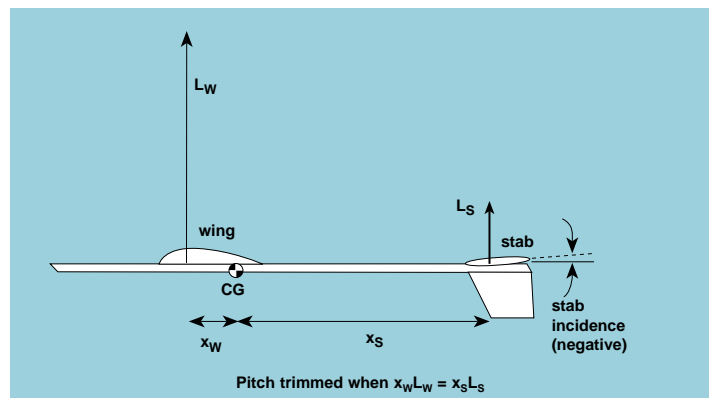

Figure 15 - Pitch trim of a glider
The wing of a boost glider is not stable in pitch all by itself. The lift of the wing is assumed to act through a point called the *aerodynamic center* which is located near the quarter chord point (1/4 of the chord length back from the leading edge). The center of gravity (CG) of the wing is typically behind the aero-center, resulting in a pitching moment that would cause the wing to pitch up and tumble end-over-end. The most common way to achieve pitch stability is by adding a second, smaller aerodynamic surface called the *horizontal stabilizer* (or *stab*). The stab produces an opposite pitching moment to counter the pitching moment of the wing (see figure 15). The glider is said to be *trimmed* (or balanced) in pitch when the upward pitching moment due to wing lift (given by x_w times L_w) is equal in strength to the downward pitching moment of the stab (given by x_s times L_s).
where A_w and C_{L_w} are the area and lift coefficient of the wing, A_s and C_{L_s} are the area and lift coefficient of the stab, and x_w and x_s are the distances that the wing lift and stab lift are acting from to the CG. Equation 5 shows us that there are two ways we can trim a glider. The first method involves changing the position of the center of gravity. Moving the CG changes the values of x_w and x_s (see figure 15). In practice, we change the position of the CG by adding or removing weight from the nose or tail of the glider.